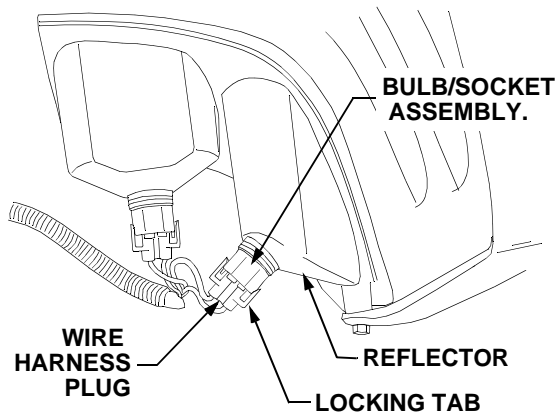

Figure 38
- Pull both locking tabs of the wire harness plug away from the bulb/socket assembly and unplug the wire harness from the bulb assembly. See Figure 38.